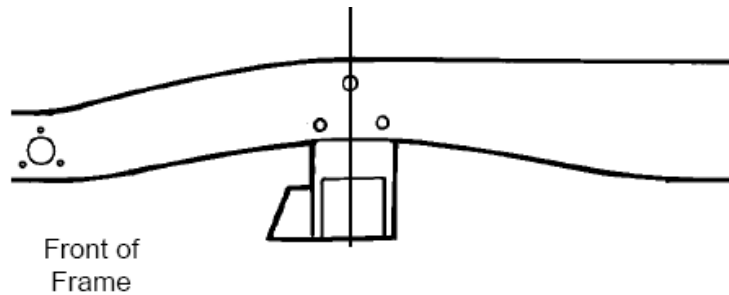

Figure 4- Crossmember Install
6. Now it's time to start fitting and installing the new crossmember. Slip it up into the frame and center it on the scribed axle center line. See **Figure 4**. If it does not fit, grind the sides of the crossmember until you can get the crossmember up in place, as shown. Make sure the crossmember is fully seated on the underside of the actual frame lower surface. **Figure 4** shows this clearly. Tack weld in place, check location, then weld in place, welding all around both ends, top, sides, and bottom.